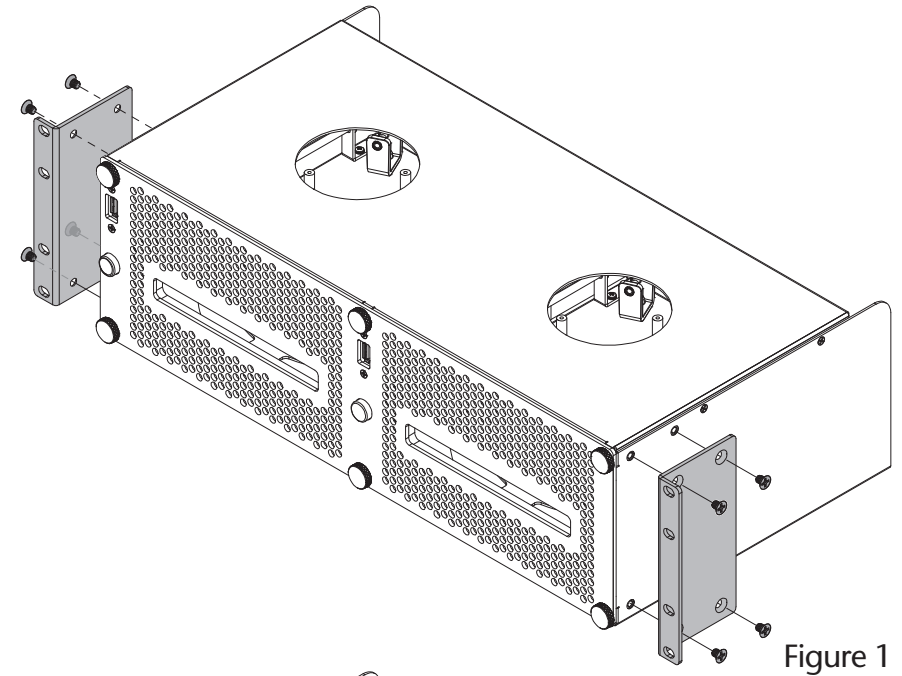

Figure 1
2. Using the eight supplied screws, secure the included rack ears to the rackmount enclosure (**Figure 1**).